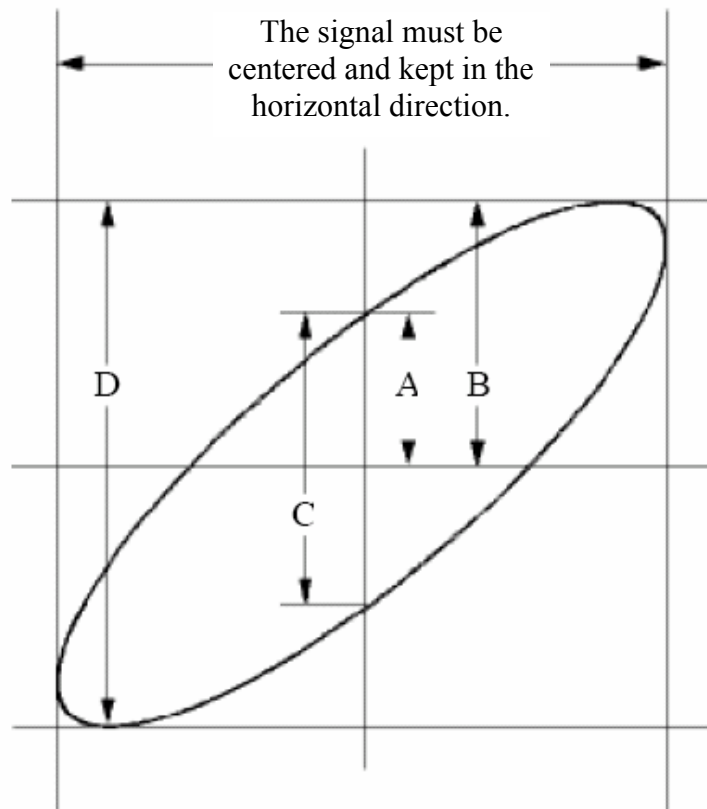

Fig. 95 Lissajous Graph
9. With the elliptical oscillogram method adopted, observe and calculate the phase difference (see Fig. 95).
6. Adjust the **VOLTS/DIV**, **VERTICAL POSITION** and **SEC/DIV** knobs to obtain the proper wave form display (see Fig. 95).